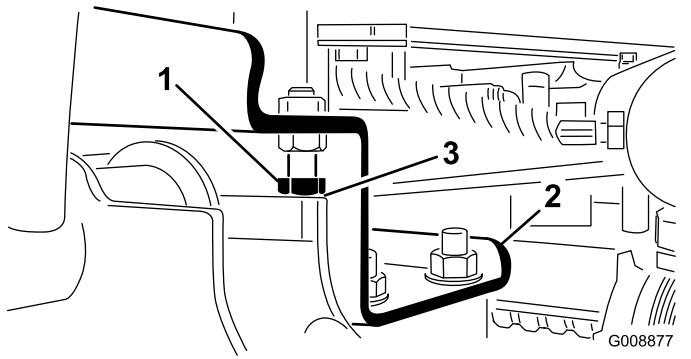

Figure 12
A. Back off the stop bolts (Figure 12).
2. Check to make sure that the clearance between each lift arm and stop bolt is 0.005 to 0.040 inches (0.13 to 1.02 mm) (Figure 12). If the clearance is not in this range, adjust the stop bolts to attain clearance.